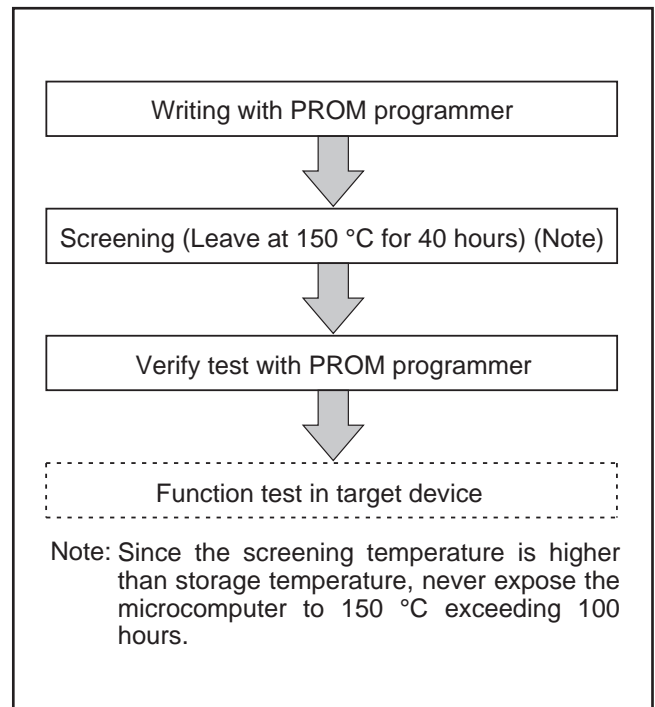

Fig. 31 Flow of writing and test of the product shipped in blank
**(6) Notes on handling**
- ① A high-voltage is used for writing. Take care that overvoltage is not applied. Take care especially at turning on the power.
- ② For the M34280E1FP/GP, Mitsubishi Electric corp. does not perform PROM writing test and screening in the assembly process and following processes. In order to improve reliability after writing, performing writing and test according to the flow shown in Figure 31 before using is recommended.